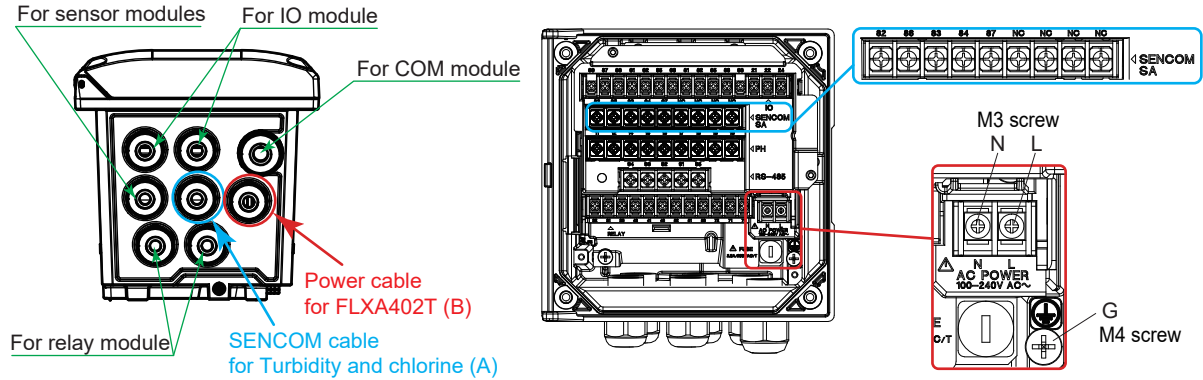

Figure 2.10 Wiring FLXA402T
Dedicated cables are included. Refer to Figure 2.6, Figure 2.9, and Figure 2.10 for wiring. Refer to Section 2.6.1 of FLXA402T Installation Manual (IM12A01G01-02EN) for the wiring on FLXA402T.
Dedicated cables are included. Refer to Figure 2.6, Figure 2.9, and Figure 2.10 for wiring. The lengths of the terminal processes at both ends are different. Connect the longer side (approx. 80 mm) to TB830D side and the shorter side (approx. 50 mm) to FLXA402T side. Cables have no terminal names on them. Wire them by color. L:Black, N: White, G: Red. M3 The tightening torque for screws (L and N) is 0.6 N·m, and that for M4 screws (G) is 1.4 N·m.
2.2.3 TB830D power supply cable (C), Relay box power supply cable (D)